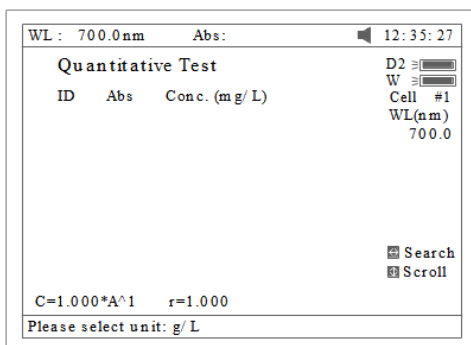

Fig 27
1. Press **[F1]** to select unit of concentration (Fig 27).